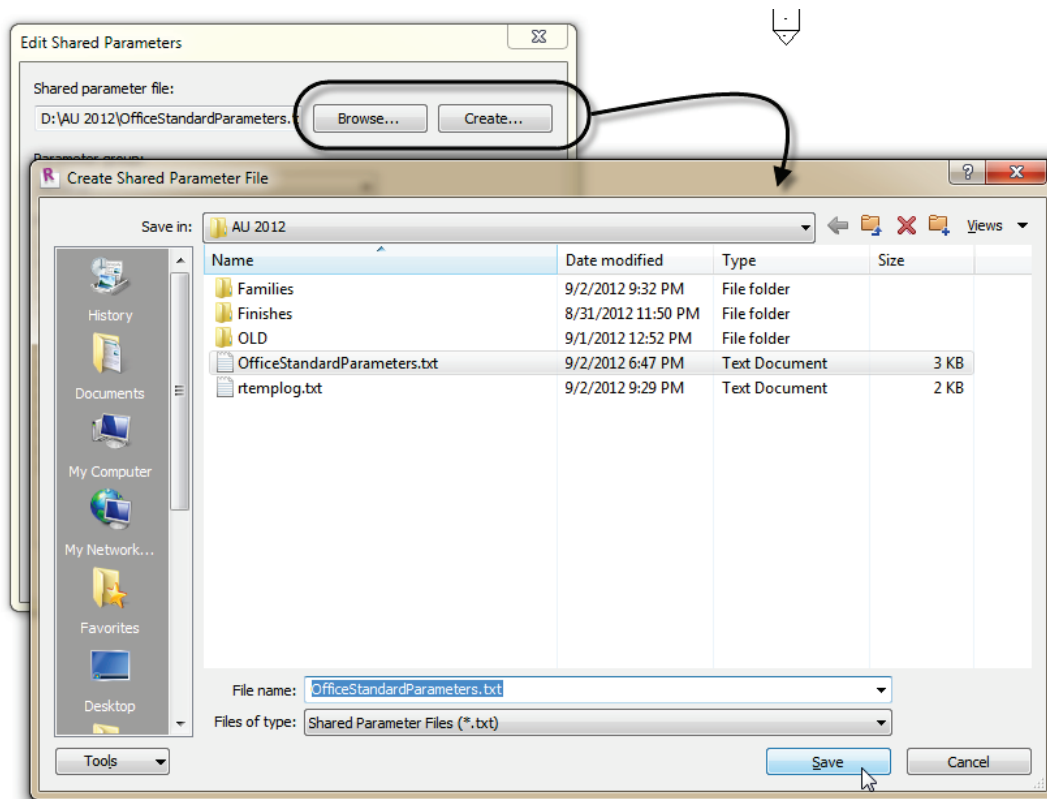

Figure 2—Create or Browse to a Shared Parameter File
- Give the file a name and then click the Save button (see Figure 2).
- In the “Browse for Shared Parameter File” dialog, browse to the location of the office standard Shared Parameter file, select it and then click Open (see Figure 2).